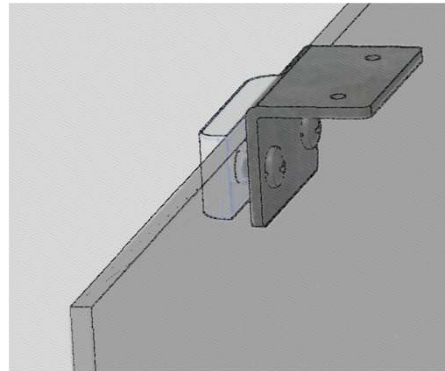
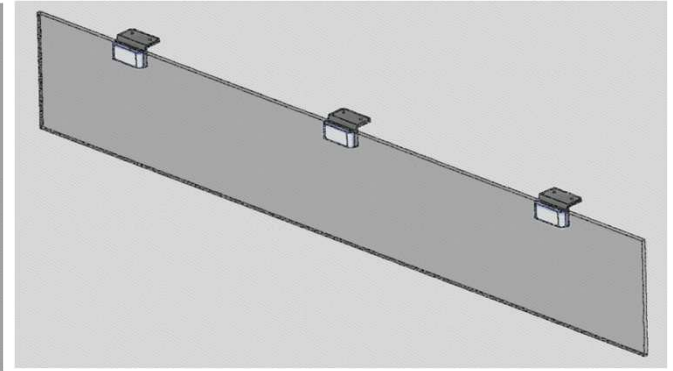

Fig. 1A
Fig. 1B
1. Align the bolt holes in the metal decorative cap with the pre-drilled holes on the front side of the acrylic modesty panel. Then align the larger 9/32" holes of the metal angle bracket with holes on the back side of the panel. Use (2) 1/4-20 x 1/2" machine screws to attach. (Fig.1A) Repeat for the remaining brackets. Panels for tables 60" and longer require (3) brackets. Panels for tables less than 60" require (2) brackets (Fig.1B)